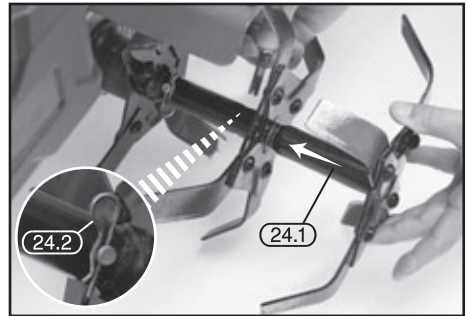

FIG.6
8.4 ATTACHING BLADES - FIGS. 6 - 7